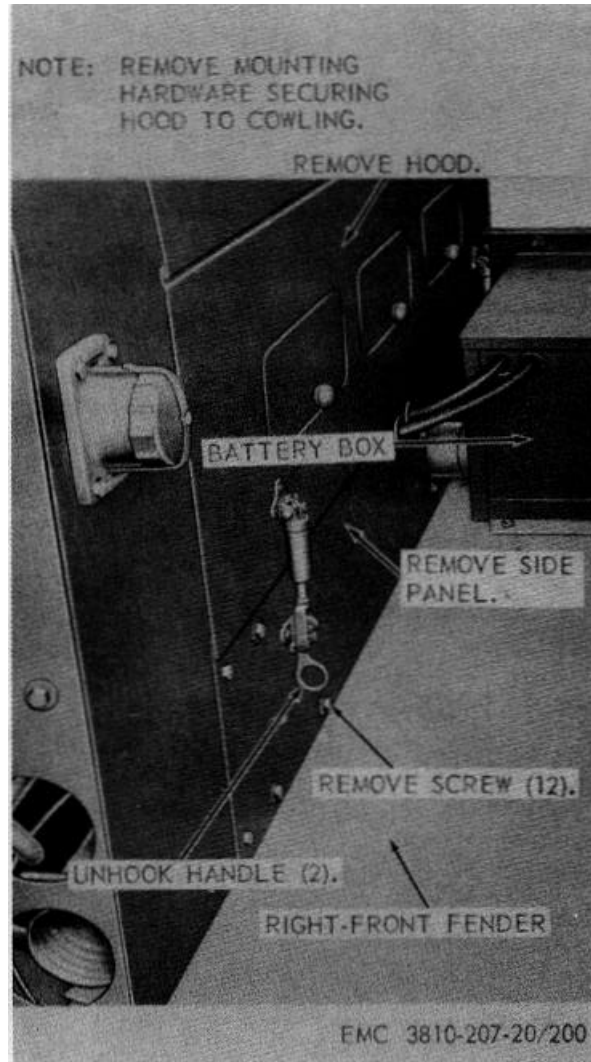

Figure 200. Engine hood and side panel, removal and installation.
- (2) Remove the engine hood and side panel as instructed on figure 200.
- (1) Install the engine hood and side panel as illustrated on figure 200.
- (2) Install the battery box and cables (par. 209).